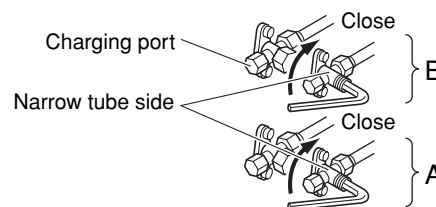

Fig. 22
- (1) Fully close the spindles at the valves on the narrow tube side of tubes A and B. (Refer to Fig. 22.)